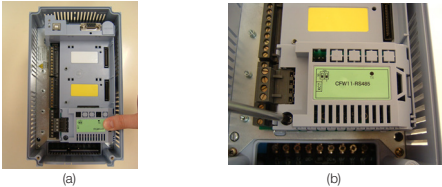

Figure 3: Installation of the accessory into slot
Step 2: Carefully plug-in the module into slot 3 of the CFW-11 or CFW70X (Figure 3 (a)).
Step 3: Place and tighten the grounding and fixture screw of the module (Figure 3 (b)).